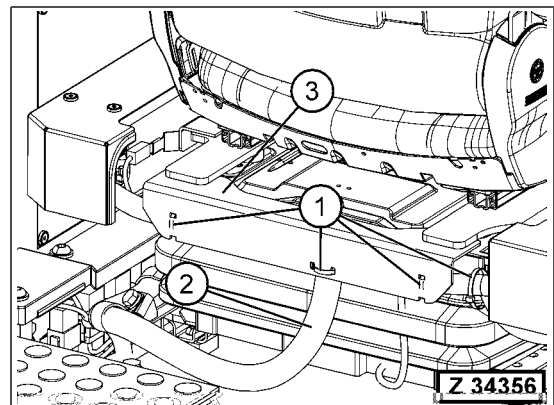

Fig. 3-336
5. Cut the bands (Fig. 3-336, Pos. 1) to remove the wiring harness (Fig. 3-336, Pos. 2) from the seat frame (Fig. 3-336, Pos. 3).